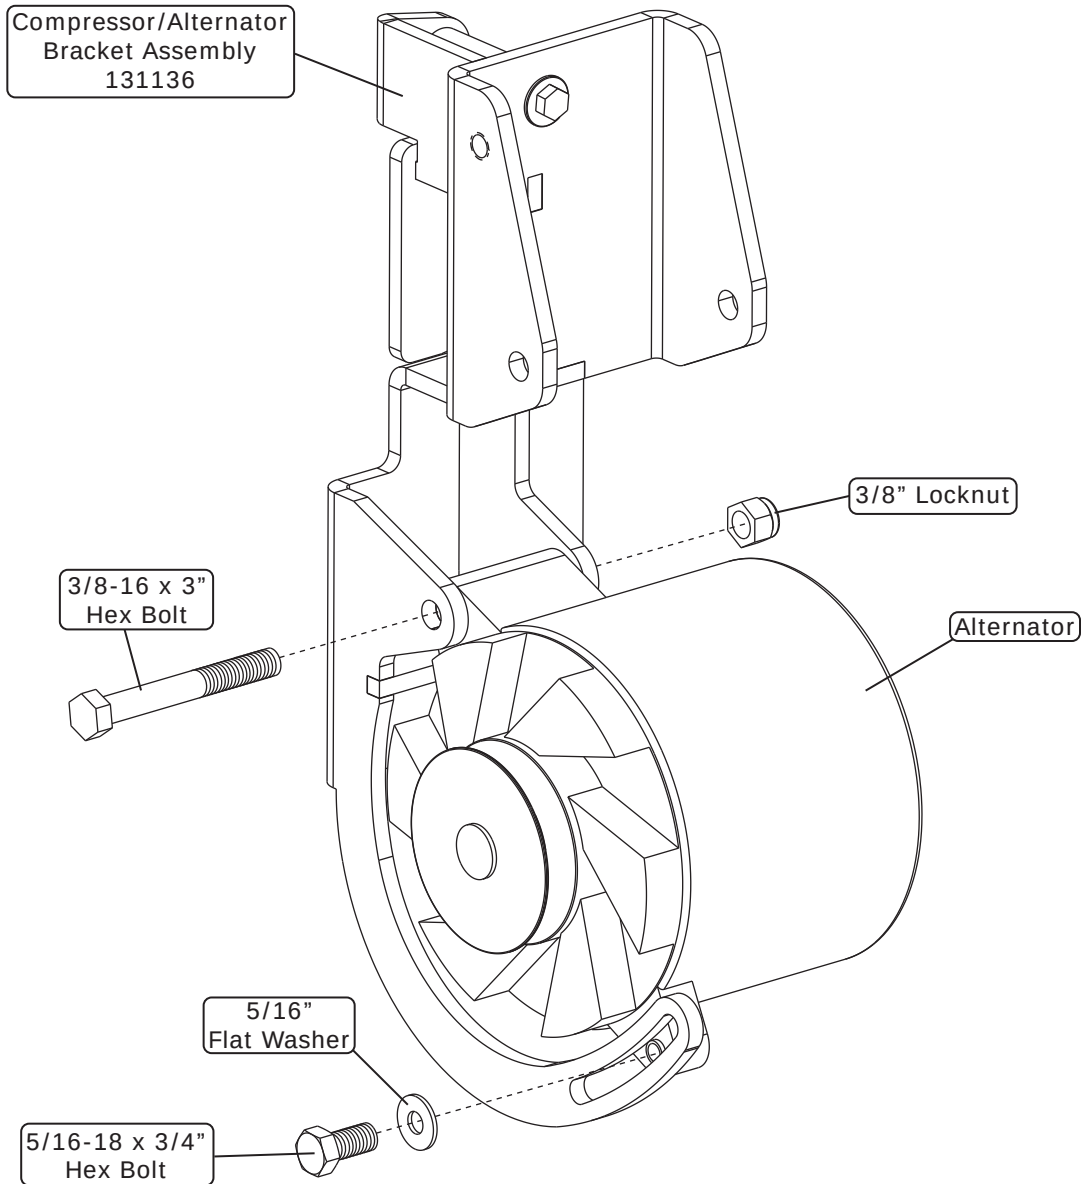

Figure 3
1. Install the alternator onto the compressor/alternator bracket assembly using a 3/8-16 x 3" hex bolt, a 3/8" locknut, a 5/16-18 x 3/4" hex bolt, and a 5/16" flat washer as shown in Figure 3, below.